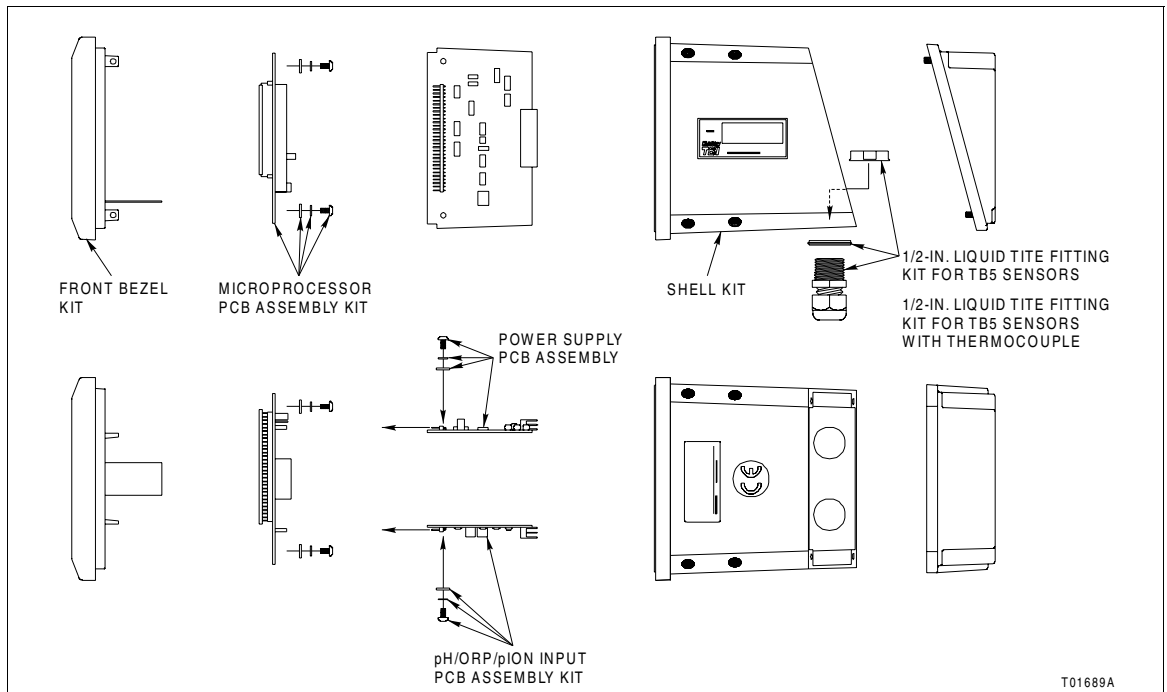

Figure PR60-1. Microprocessor PCB Replacement
2. Use the Phillips head screwdriver to remove the two screws that secure the microprocessor PCB to the front bezel (Fig. PR60-1).